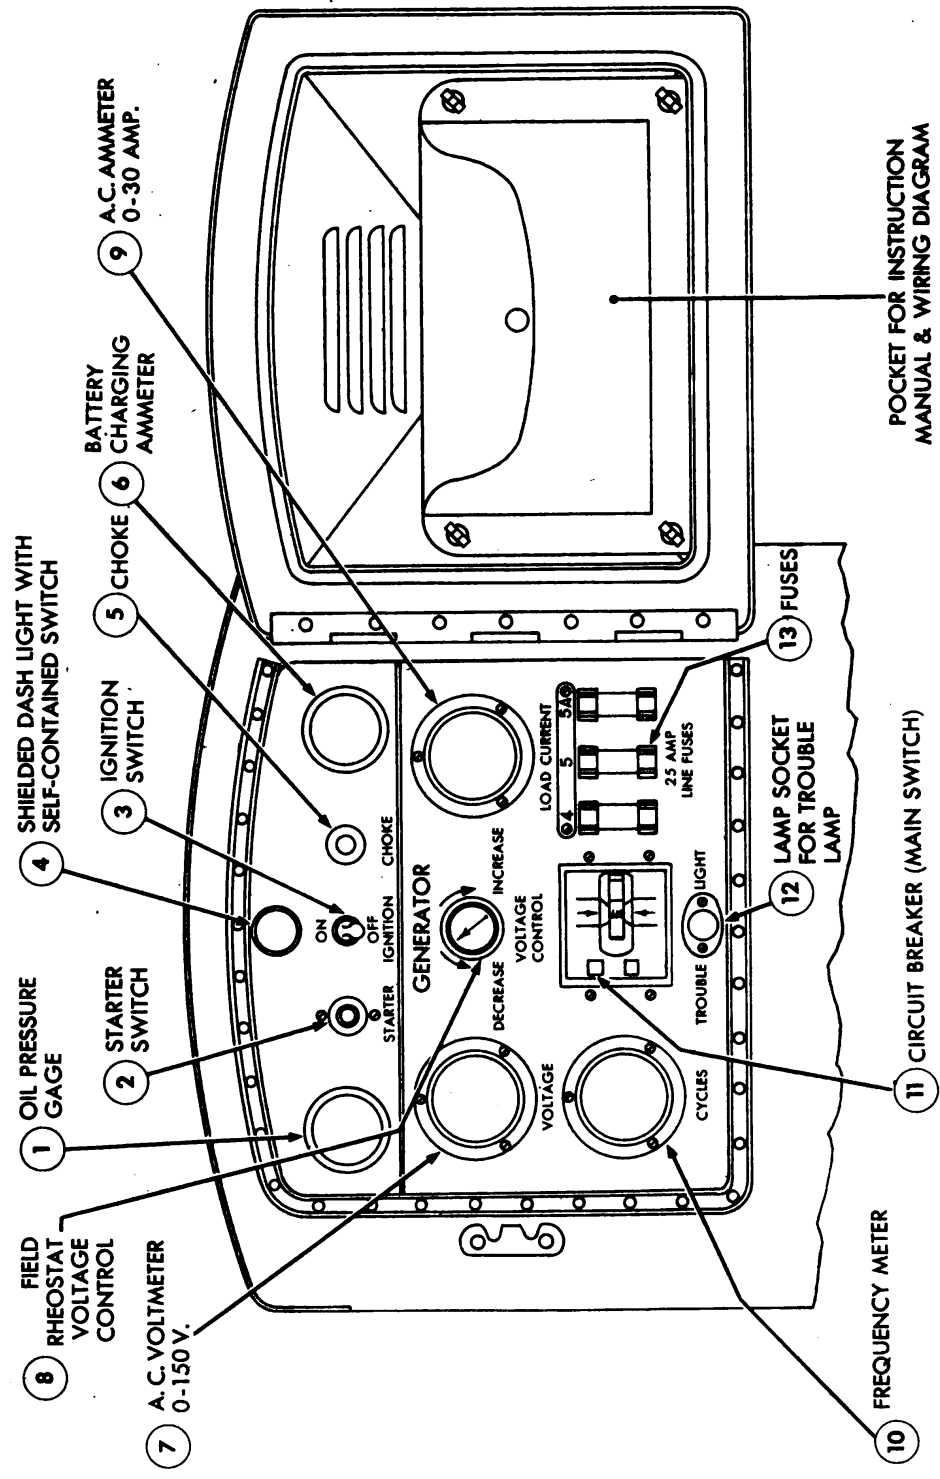

Figure 7 — Instrument Panel
- (2) Pull out the choke button if the engine is cold (5, fig. 7).
- (3) Snap on the ignition switch (3, fig. 7).
- (4) Push in the starter switch button (2, fig. 7).
a. **Circuit Breaker.** After the engine has been started and is operating satisfactorily, the electrical load may be applied by throwing the circuit breaker to "ON" position (11, fig. 7). The circuit breaker will automatically disconnect the generator from the load should any trouble develop. It resets immediately when thrown to the "ON" position again, and throws out if the trouble still exists. The trouble, generally a short circuit, should be cleared before further use.
b. **Fuses.** To guard against the circuit breaker sticking, or failing to throw out for any reason, there are three fuses (13, fig. 7), one in each line which will save the generator from a continuous overload.
c. **Voltmeter.** The voltmeter (7, fig. 7) is connected in the circuit ahead of the main switch and will indicate the line voltage at all times unless the fuses are out. If the machine is running and the voltmeter does not register, check the fuses before looking further.
d. **Controlling Voltage.** The field rheostat (8, fig. 7) may be manually operated to change the voltage in the line. To increase the voltage, turn the knob to the right as shown by the arrow on the panel; to decrease, turn to the left. By controlling the voltage in the d-c exciter, this rheostat varies the excitation of the a-c generator, and thus controls the voltage of the entire unit. It is generally advisable to adjust the voltage to the rated or desired value after the machine reaches a steady operating condition at its normal load. As an initial
e. **Ammeter.** The ammeter (9, fig. 7) is placed in one phase (one line) of the load circuit, and gives a direct indication of the load if the load is properly balanced between phases. Since some of the load may be single phase, it is advisable to check each phase occasionally with a portable ammeter and, if necessary, reconnect the load so that it is more evenly balanced. The rated full load for the M5 Unit, 3-phase, 60-cycle, 125-volts, is 13.9 amperes. For the M5 Unit, 3-phase, 50-cycle, 130-volts, the rated load is 13.3 amperes. For the M6 Unit, single-phase, 60-cycle, the rated load will be 20 amperes. The generator will not be harmed if it is operated for as long as 2 hours at 25 percent overload or 25 percent more current.
a. To shut down, throw the circuit breaker to "OFF" position. This will take the load off the generator. Then snap off the ignition switch (3, fig. 7). Shut off the gasoline at the tank. In cold weather, pull out the choke as you turn off the ignition. A rich mixture will thus be drawn into the cylinders, making easier starting the next time the unit is put in operation.
b. A socket at the bottom of the instrument panel (12, fig. 7) is for plugging in the trouble light extension. This also operates off the battery and is independent of the generator. The trouble lamp is kept in the tool box.
- (1) Gasoline — at tank, carburetor, sediment bowl, or gas lines.
- (2) Oil — under unit, indicating loose engine oil pan mounting bolts.
- (3) Water — under radiator and at hose connections.
b. **Instruments.** The instruments on the control panel give a constant indication of what is going on within the unit, and the operator should look at them frequently. If not familiar with the names of the instruments, see figure 7. Observe the following requirements:
- (1) **OIL PRESSURE GAGE** (1, fig. 7). Reading will usually be between 10 and 20 when the engine is warm.
- (2) **PANEL LIGHT.** Turn on the panel light (4, fig. 7) with the switch contained in its base. (Failure to light may be due to a burned-out bulb.)
- (3) **CHOKE** (5, fig. 7). The choke should be all the way in as soon as the engine will operate properly without its use.
(4) **ENGINE AMMETER** (6, fig. 7). The needle should be to the right or "+" side of the "0" to show that the generator is charging the battery.
(5) **A-C VOLTMETER**. The a-c voltmeter (7, fig. 7) shows the voltage in the line. During 60-cycle operation it should be 125. During 50-cycle operation it should be 130. A variation of about 3 volts from these readings is to be expected. A constant variation can be corrected with the rheostat. If the needle vibrates back and forth, the engine governor may need attention.
(6) **A-C AMMETER** (9, fig. 7). The a-c ammeter measures the load on the generator. Normal full load is 13 amperes for 3-phase machines, 20 amperes for M6 single-phase.
(7) **FREQUENCY METER** (10, fig. 7). The reed that looks fuzzy and appears longer than its neighbors indicates the frequency of the current in cycles.